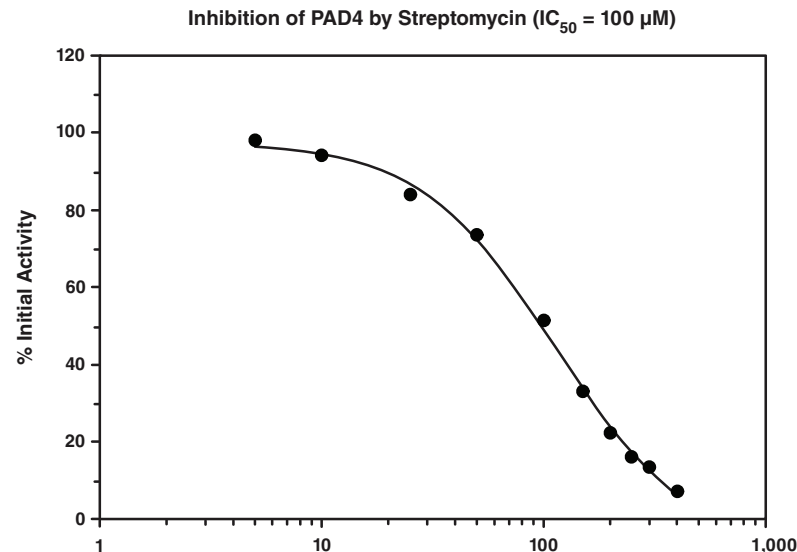

Figure 2. Inhibition of human recombinant PAD4 by Streptomycin ($IC_{50} = 100 \mu M$)
4. Graph the percent inhibition or percent initial activity as a function of the inhibitor concentration to determine the IC_{50} value (concentration at which there was 50% inhibition). Inhibition of human recombinant PAD4 by Streptomycin and Chlortetracycline is shown in Figures 2 and 3 (see pages 12 and 13, respectively).⁷